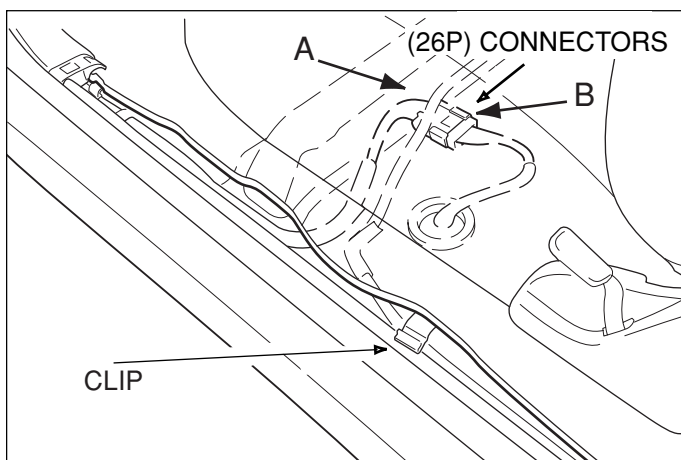

Fig. C4
- ➔ i. Release the carpet clip. (Fig. C4)
- ➔ ii. Unplug the vehicle's (26P) connectors. (Fig. C4)